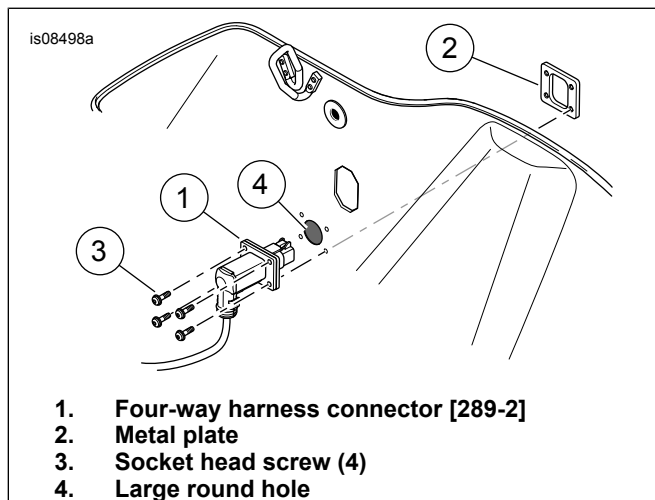

Figure 3. Four-Way Harness Connector Installation
1. See Figure 3. Remove the metal plate (2) from the four-way bulkhead connector (1) on the saddlebag harness. Insert the connector through the saddlebag hole from the inside.
2. Slide the metal plate back onto the connector outside the saddlebag. Secure the connector with four socket head screws (3) from **inside** the saddlebag. Tighten.